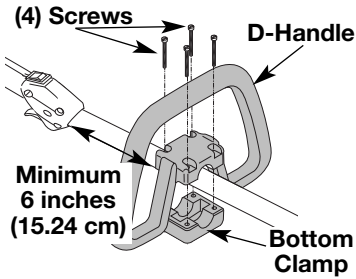

Fig. 1
2. Place the D-handle over the shaft housing and onto the bottom clamp (Fig. 1). Place it a minimum of 6 in (15.24 cm) from the end of the shaft grip.